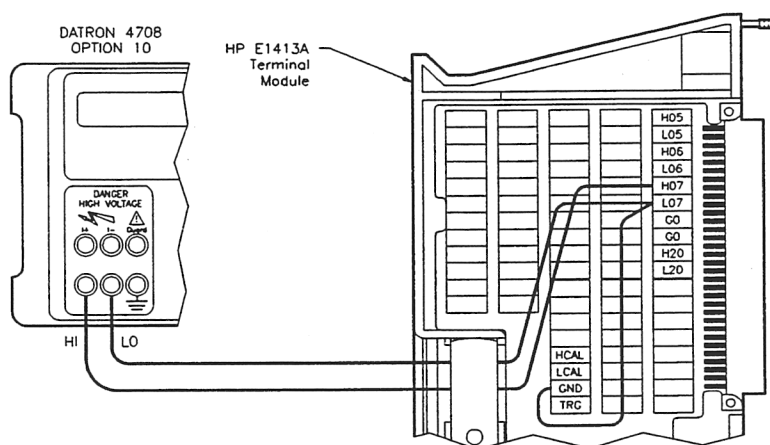

Figure 2-4. DC Standard Connections
- For connections to the DC Standard (Datron 4708), see Figure 2-4.
- [a] Connect HI and LO leads to DC Standard (see Figure 2-4)